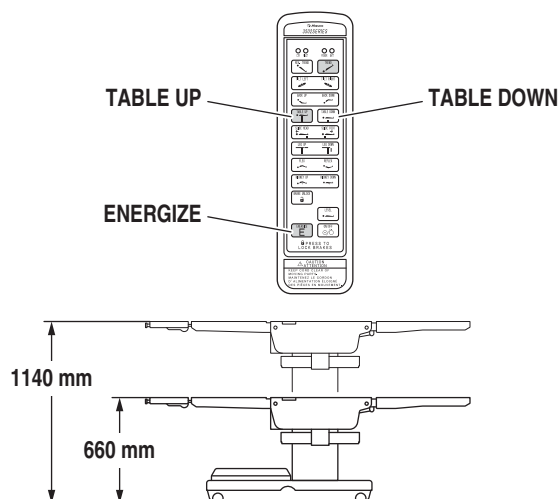

Figure 2-11. Elevation Function
e. Elevation To raise table top, press the ENERGIZE button and then the TABLE UP button (figure 2-11). The table will lift a patient weight of 315kg up to a maximum height of 1140mm. To lower the table top, press the ENERGIZE button and then the TABLE DOWN button. The table top will go down to a minimum height of 660mm (minus pad).